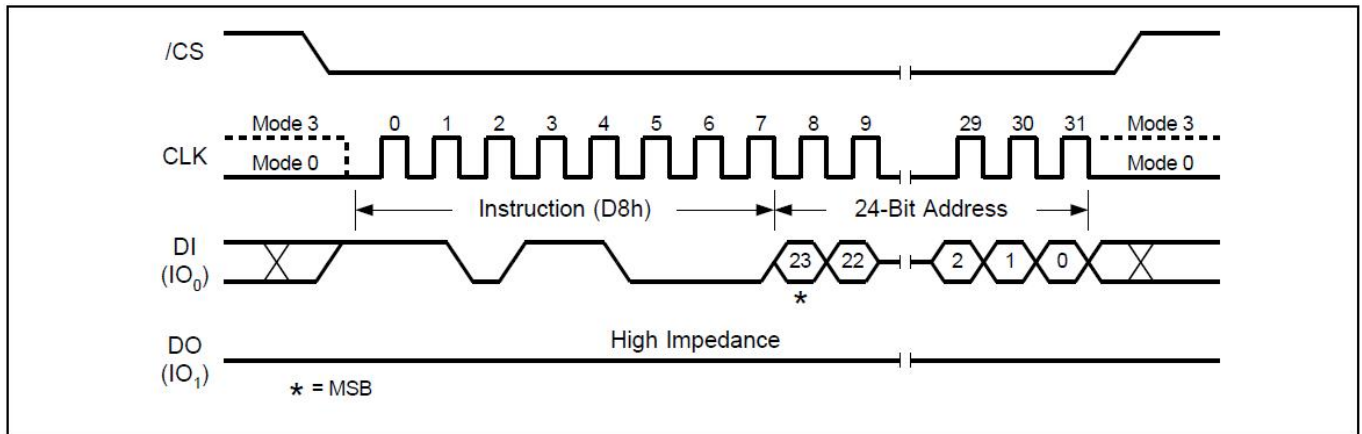

Figure18. 64KB Block Erase Sequence Diagram
The 64KB Block Erase command sequence: CS# goes low → sending 32KB Block Erase command → 3-byte address on DI → CS# goes high. The command sequence is shown in Figure 18. CS# must be driven high after the eighth bit of the last address byte has been latched in; otherwise the 64KB Block Erase (BE) command is not executed. As soon as CS# is driven high, the self-timed Block Erase cycle (whose duration is tSE) is initiated. While the Block Erase cycle is in progress, the Status Register may be read to check the value of the Write in Progress (BUSY) bit. The Write in Progress (BUSY) bit is 1 during the self-timed Block Erase cycle, and is 0 when it is completed. At some unspecified time before the cycle is completed, the Write Enable Latch (WEL) bit is reset. A 64KB Block Erase (BE) command applied to a block which is protected by the Block Protect (SEC, TB, BP2, BP1, and BP0) bits (see Table 1-2) is not executed.